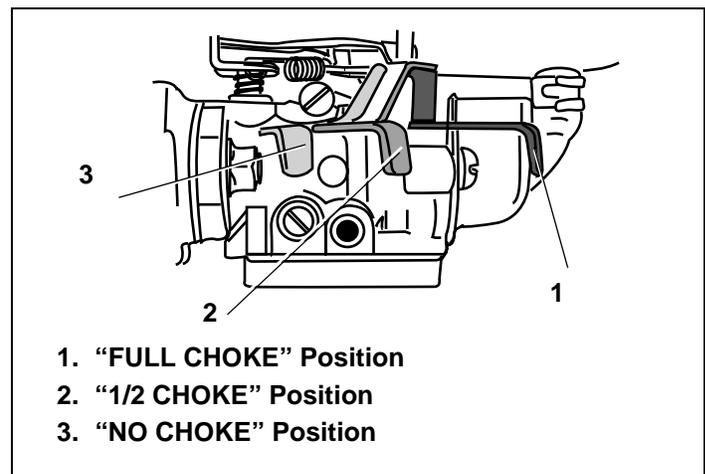

Figure 11. Choke Control "A"
3. Move choke control on engine to "FULL CHOKE" position. See Figures 11 and 12.
3. Move choke control on engine to “FULL CHOKE” position. See Figures 11 and 12 on page 6. Afterward, continue reading instructions below.
- Momentarily move choke control back to "FULL CHOKE" position. See Figures 11 and 12 on page 6. Afterward, continue reading instructions below.